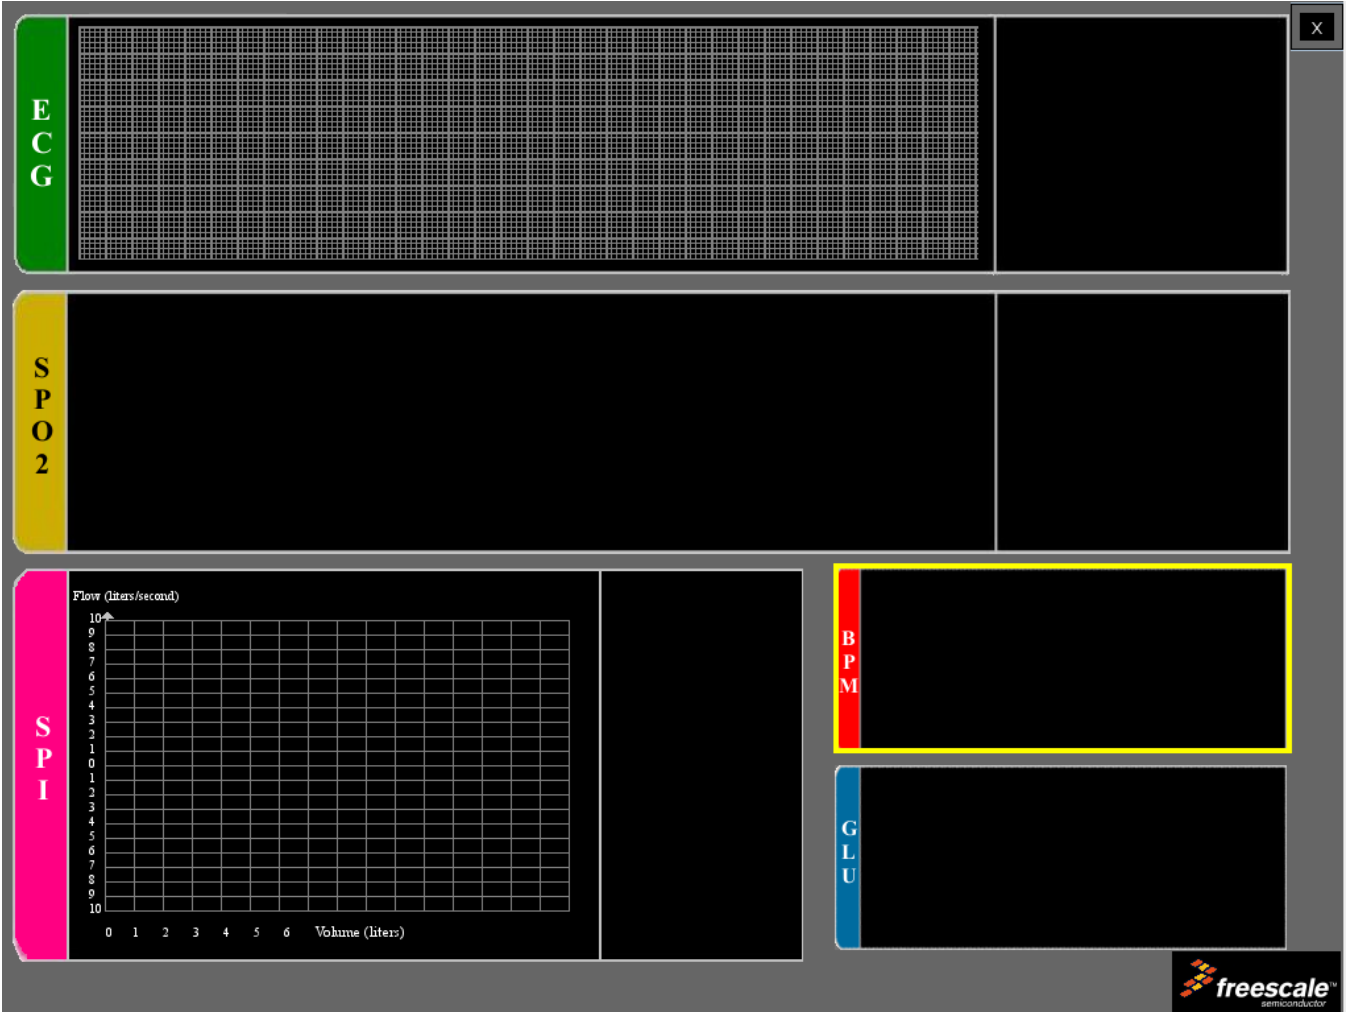

Figure 25. Doctor mode
4. Verify that Caps Lock is not activated on keyboard and then press Shift + D in order to start GUI in doctor mode (Figure 25).